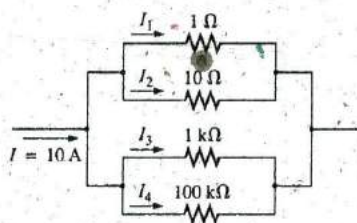

FIG. 6.102
33. Parts (a) through (e) of this problem should be done by inspection—that is, mentally. The intent is to obtain an approximate solution without a lengthy series of calculations. For the network in Fig. 6.102: